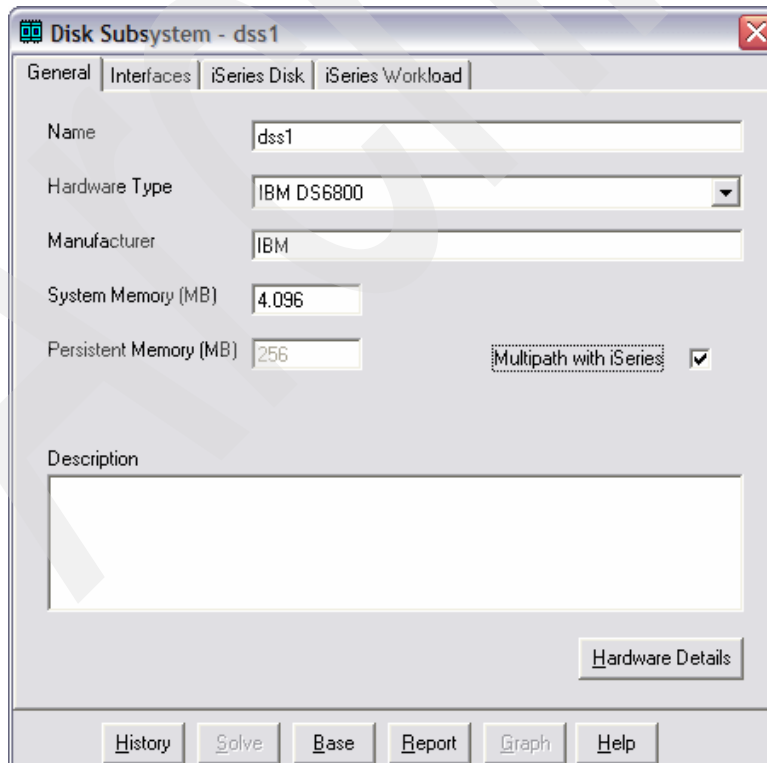

Figure 4-105 Selecting DS6800 and Multipath with iSeries
14. The Disk Subsystem - dss1 window (Figure 4-105) opens, displaying the General tab. Follow these steps: